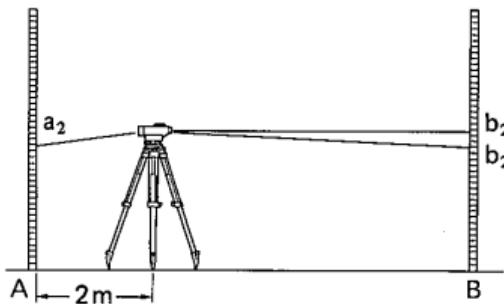
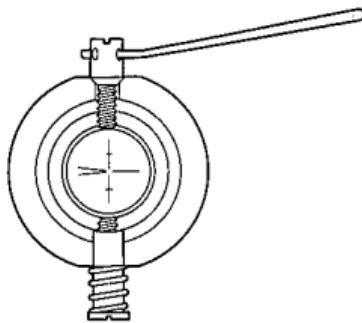

Fig.7.6
Fig.7.8
- 2) Set the instrument at a point 2 m from point A. Take readings a_2 and b_2 . (Fig.7.6)
- 4) Use the adjusting pin to eliminate the difference between b_2' and b_2 . (See "11. STANDARD EQUIPMENT".) In the example shown in Fig.7.6 b_2 is larger than b_2' . The horizontal line needs to be lowered. To lower the horizontal line, carefully loosen the adjusting screw by a small amount using the adjusting pin ⑯. To raise the horizontal line, tighten the adjusting screw. (Fig.7.8)